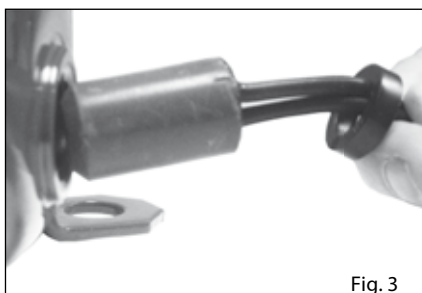

Fig. 3
- Insert the PTC at the maximum inside the pocket in the compressor shell. (Fig 3 & 4)